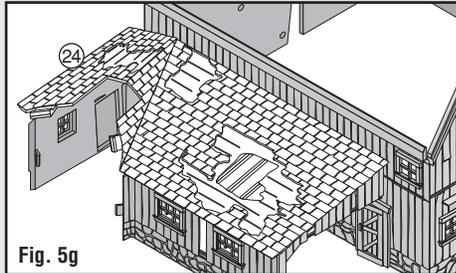

Fig. 5g
- Align and snap Implement Shed Roof (24) into place (Fig. 5g). Apply glue along hidden seams and on inside tabs.